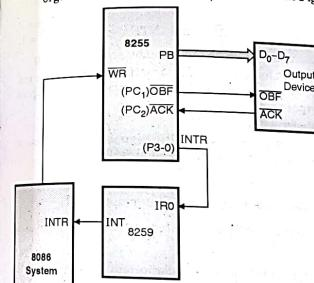

Fig. 16.5.7 : Mode 1 : Output mode interfacing
- The port A, port B and handshake signals are interfaced with peripheral as shown in Fig. 16.5.7. The aim of interfacing is to transfer data from CPU to peripheral through 8255.